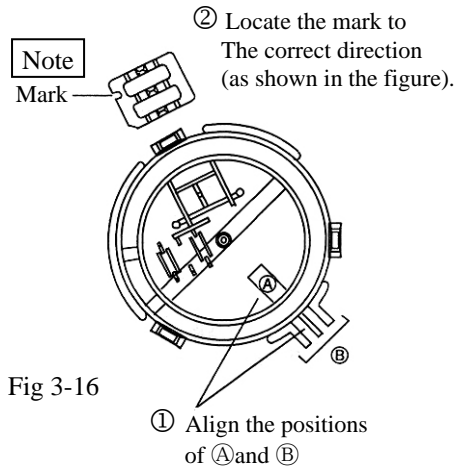

Fig 3-16
⑨	Is the mark of the switch brush in the correct direction ? (See Fig 3-16)